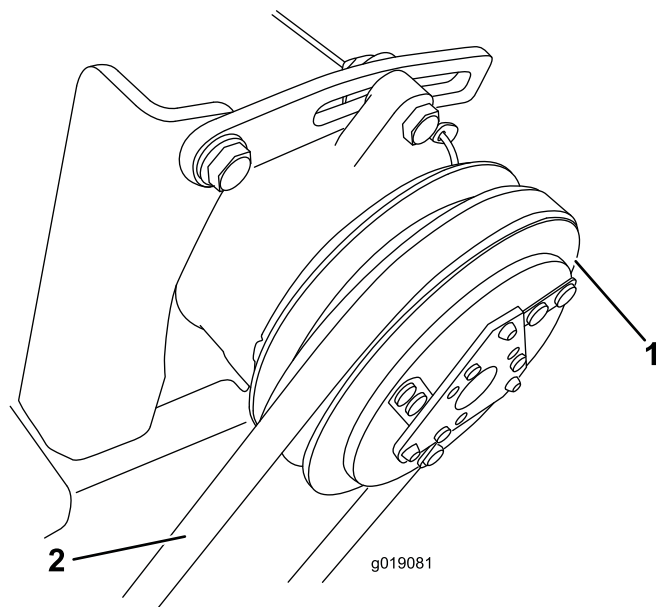

Figure 37
2. Check belt tension by applying 40 N (9 lb) of force on the belt (Figure 37), midway between the engine pulley and the compressor pulley.